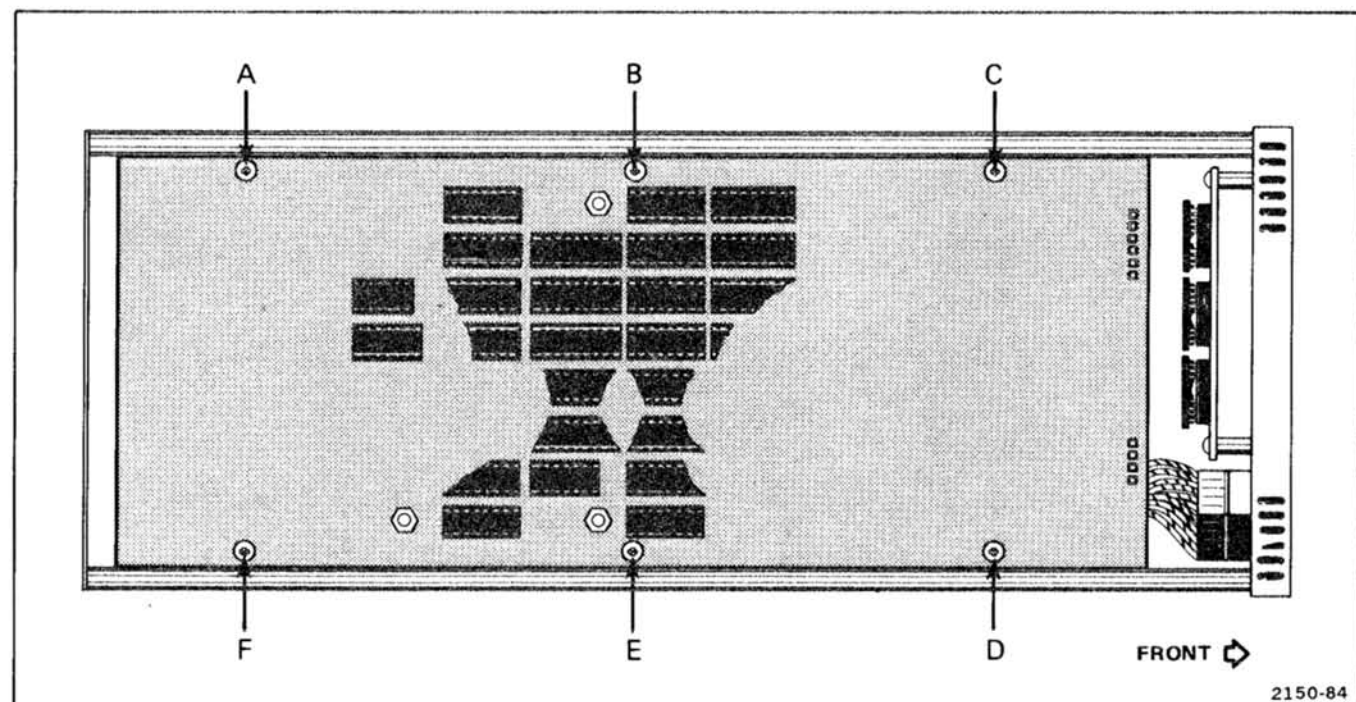

Figure 4-8. Locations of securing screws on A3 Intelligence circuit board.
1. Remove 6 screws (A, B, C, D, E, and F on Fig. 4-8).